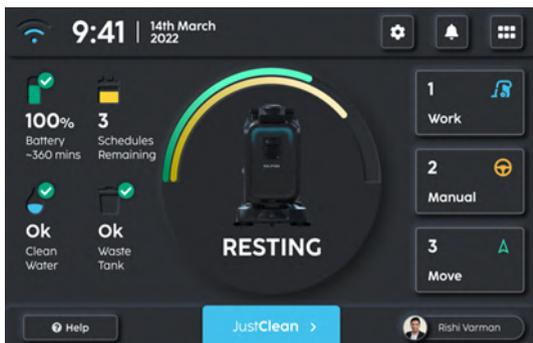

FIGURE 6-17
1. On the Home Page for Pro Mode, select 'JustClean™' (**Fig. 6-17**).